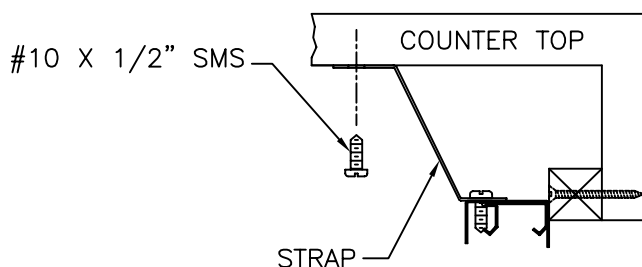
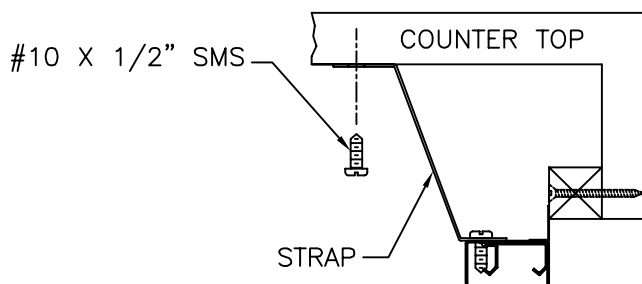

FIGURE 7C
FIGURE 7D
- A. BEND DOORKIT STRAPS AS SHOWN. SEE FIGURE 7C, WHEN DOORKITS REST ON AN S-SERIES SHELF OR FIGURE 7D FOR NT STYLE SHELF.